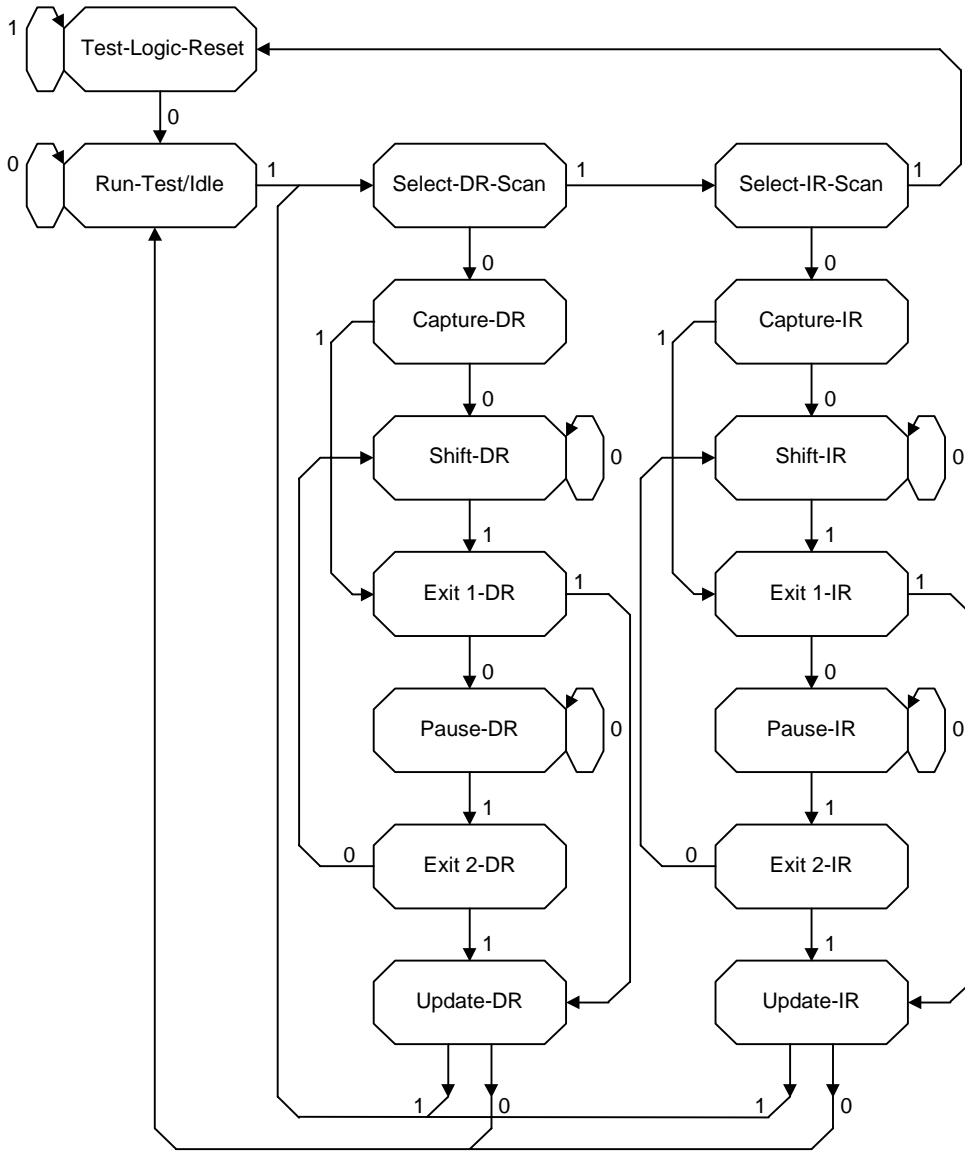

Figure 7.3.8 TAP Controller State Diagram
The state transition diagram of the TAP controller is shown in Figure 7.3.8. Each arrow between states is labeled with a 1 or 0, indicating the logic value of JTMS that must be set up before the rising edge of JTCK to cause the transition.
The following paragraphs describe each of the controller state. The left vertical column in Figure 7.3.8 is the data column, and the right vertical column is the instruction column. The data column and instruction column reference data register (DR) and instruction register (IR), respectively.